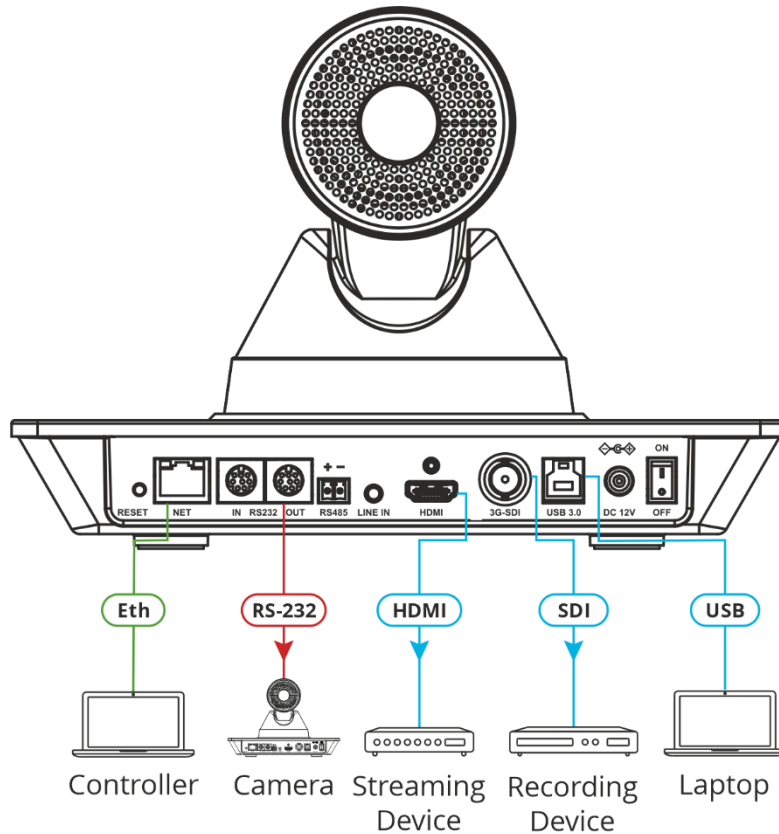

Figure 2: Connecting to the K-Cam4K Rear Panel
**To connect K-Cam4K as illustrated in the example in Figure 2:**
1. Connect a laptop to the NET RJ-45 connector (5) directly or via the network.
2. Connect the RS232 OUT 8-pin DIN Connector (7) to an additional Camera.
3. Connect the HDMI connector (10) to a streaming device. Device
4. Connect the 3G-SDI connector (11) to a recording device.
5. Connect the USB 3.0 port (12) to a laptop.
6. Connect the power adapter to **K-Cam4K** and to the mains electricity (not shown in Figure 2).